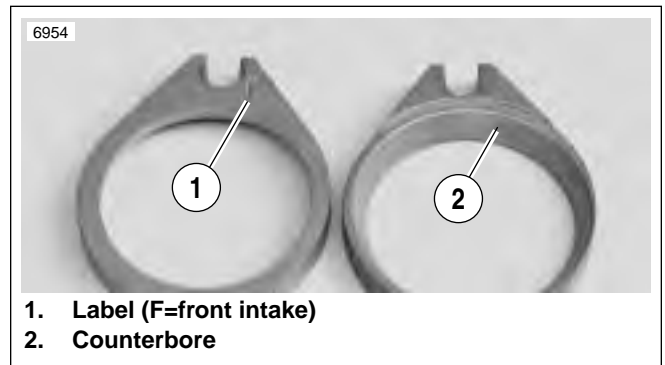

Figure 4-103. Intake Flanges
1. See Figure 4-103. Install front and rear intake flanges onto throttle body with the counterbore facing out. Each intake flange is labeled and the pieces are not interchangeable.